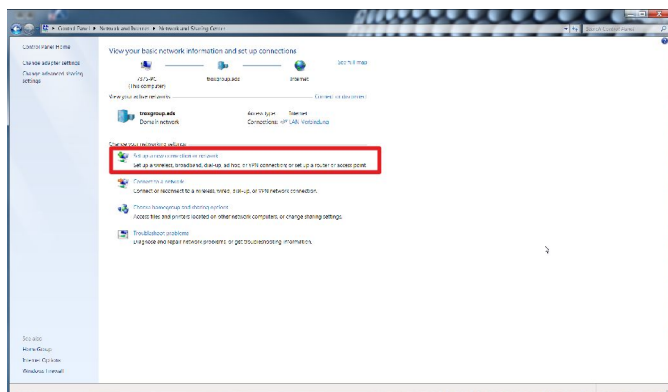

Fig. 42: Setting up a new connection or network
2. ▶ Select 'Set up a new connection or network' (Fig. 42).